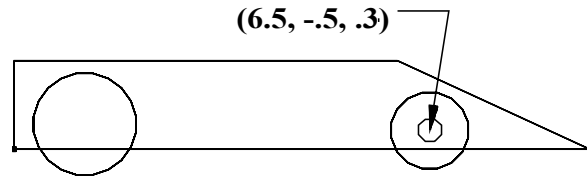

FIG. 10
Step 10. In the Side View, move cursor to the center of the front wheel, coordinates (6.5, -.5, .3) and click for the center of the front axle, **Fig. 10**.